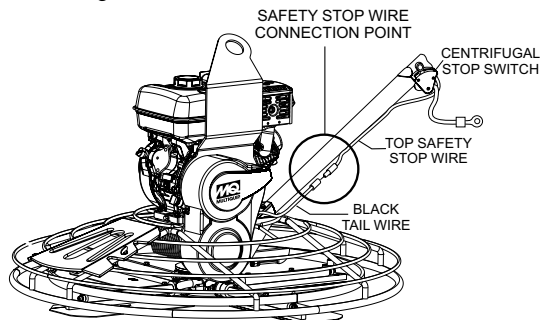

Figure 8. Safety Stop Switch Connection
- Connect the black tail wire from the engine to the black safety stop wire from the centrifugal stop switch as shown in Figure 8.